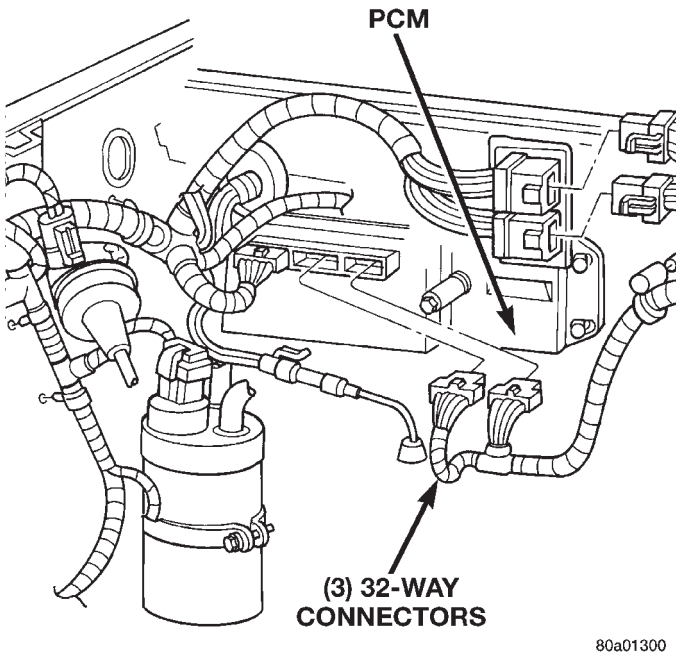

Fig. 23 Powertrain Control Module (PCM)
(1) Verify that the three 32-way electrical connectors are fully inserted into the connector of the powertrain control module (PCM) (Fig. 23).